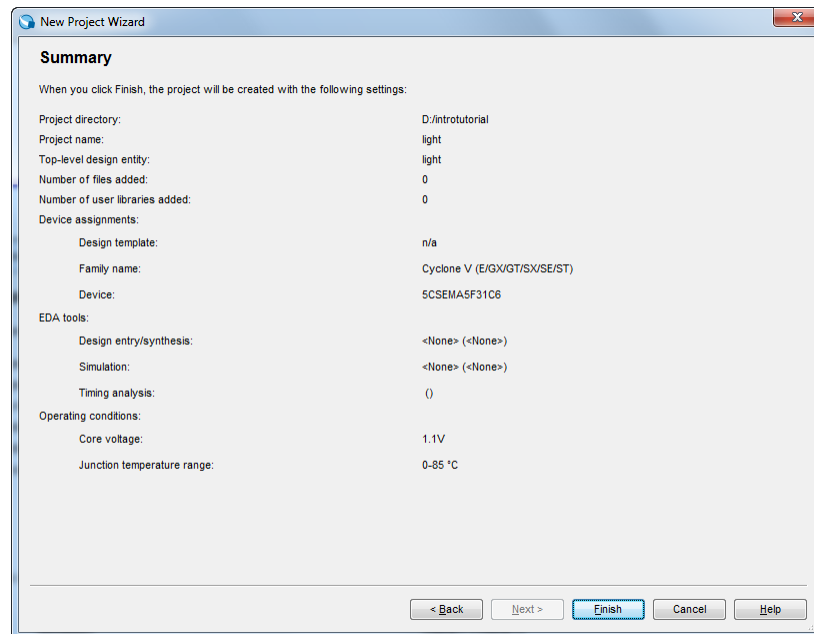
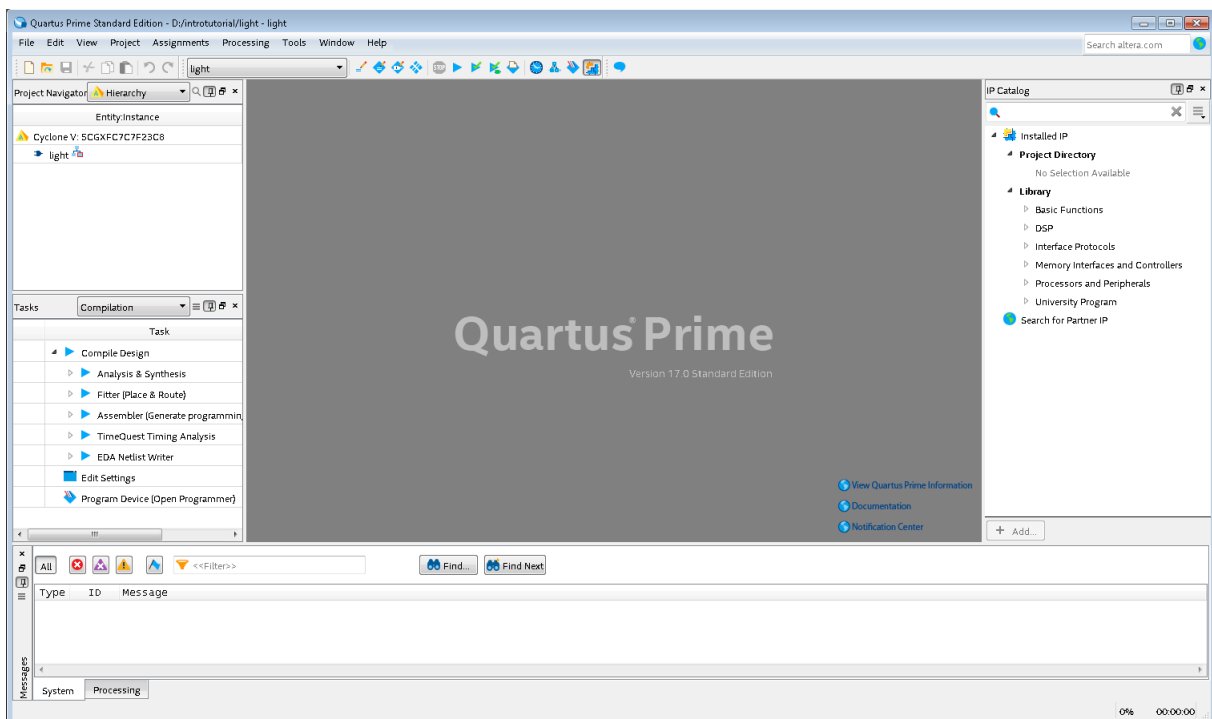

Figure 10. Summary of project settings.
Figure 11. The Quartus Prime window for a created project.
7. A summary of the chosen settings appears in the screen shown in Figure 10. Press Finish, which returns to the main Quartus Prime window, but with *light* specified as the new project, in the title bar, as indicated in Figure 11.